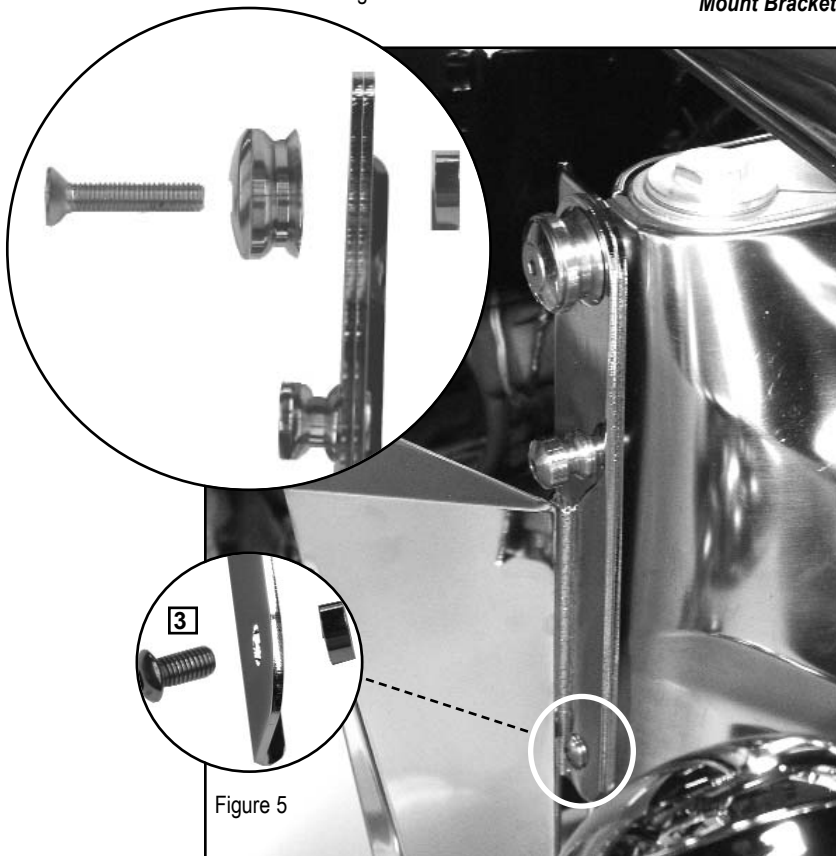

Figure 5
5. Install the right side Chrome Lower assembly to the right side of the motorcycle. Start the M8-40 Screw from Kit Q302 through the Upper Spool assembly, the Chrome Lower Bracket assembly, Bushing and then into the upper hole in fork (**5mm Hex Key**). **Figure 5**
6. Install a M8 x 20 Screw from this kit into lower hole with bushing between Chrome Lower assembly and motorcycle. (**5mm Hex Key**). **Figure 5**